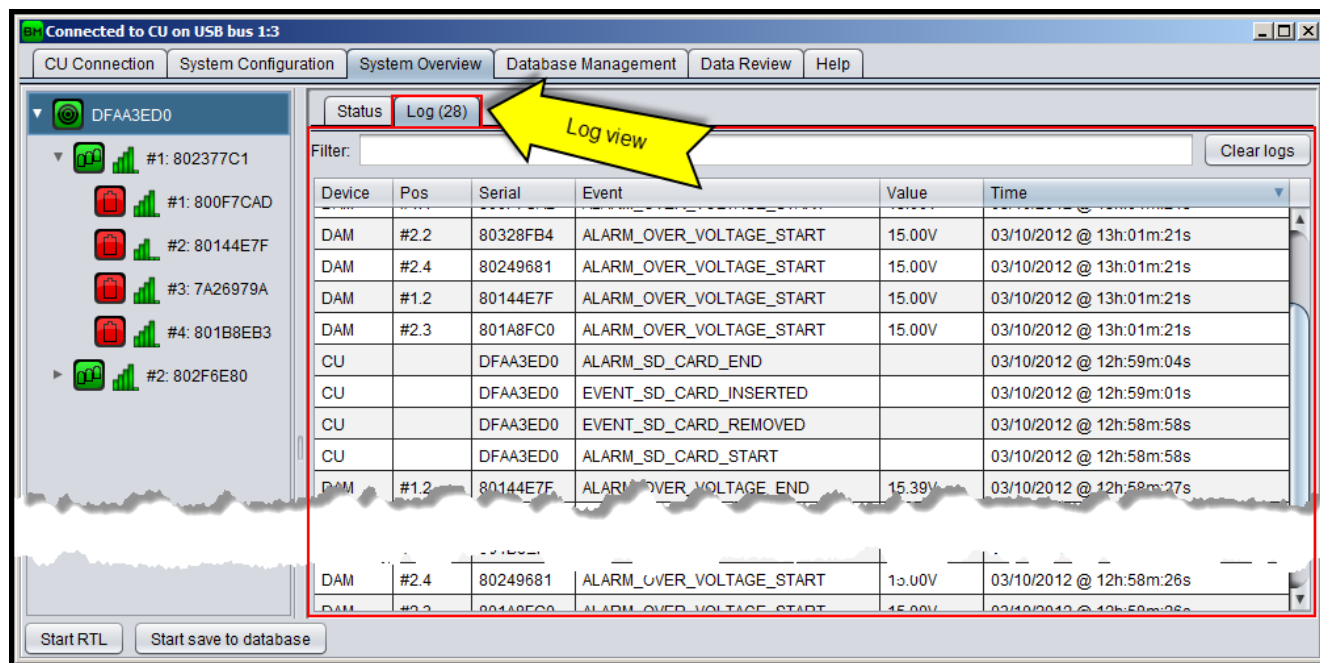

Figure 42: System overview log tab
- **Log view:** Shows the events and alarms history (see §9 for events and alarm description) for each device level (system, string, battery) since the application connection to the CU as shown on Figure 42.